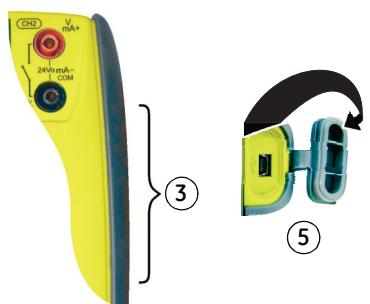

Figure 1-3:
5.	Cover for the USB connector (Figure 1-3). For IP65, press it fully into the recess over the connectors.